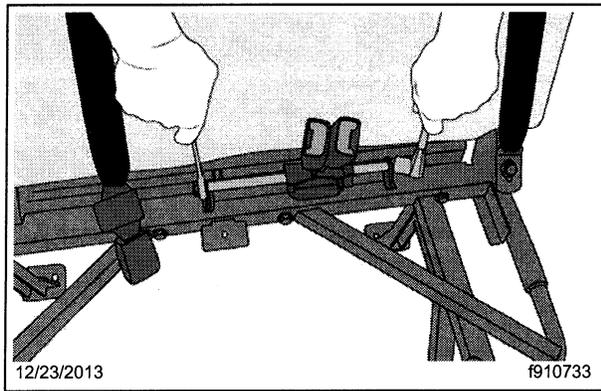

Fig. 6, Removing the Nut at the Shaft End, Sliding Buckles
1. Using two 3/4-inch wrenches, remove the nut at one end of the shaft. See **Fig. 6**.